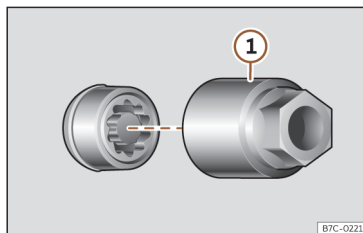

Fig. 235 Anti-theft wheel bolt with cap and adapter.
- Insert the special adapter >>> **Fig. 235 ①** (vehicle tools >>> page 314) onto the anti-theft wheel bolt and push it on as far as it will go.